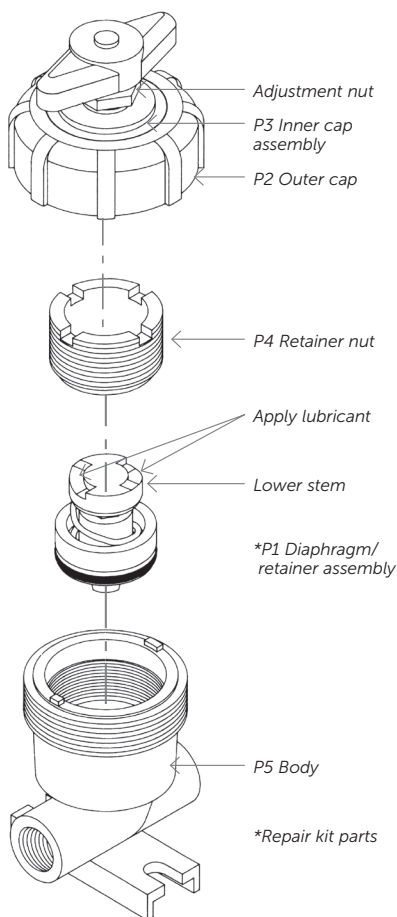

Figure 1.
1. Refer to Figure 1 and begin disassembly by turning the adjustment nut counterclockwise two turns with the ⅝" open-end wrench (S5).